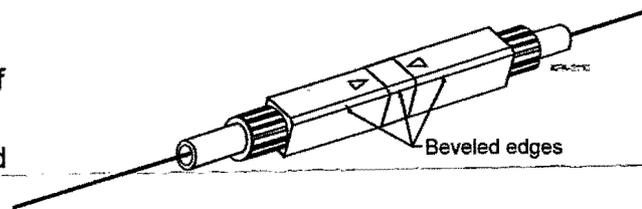

Figure 16 — Align Beveled Edges
- Step 2:** Working from the right side of the assembly tool, carefully lift the CamSplice out of the tool (Figure 16).